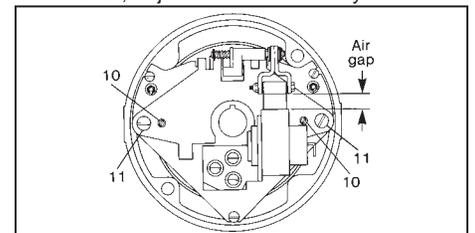

Figure 7
Note: Both adjustment nuts (11) on Figure 7 must be turned equal amounts counterclockwise to decrease torque.
- Manually lift solenoid plunger to maximum travel. Depress and allow solenoid plunger to snap out several times. See Figure 7. Measure solenoid air gap between mating surfaces of solenoid frame and solenoid plunger. (On vertically mounted brakes, it will be necessary to push solenoid plunger into solenoid frame to the point where spring pressure is felt, before measuring solenoid air gap.) As friction disc wear occurs the air gap will increase, as well as stopping time. If solenoid air gap exceeds 11/16", adjustment is necessary.
- The solenoid air gap may be decreased by turning both wear adjustment screws (10) equal amounts clockwise, approximately 1/8 turn, until approximate solenoid gap is attained. Counterclockwise rotation will increase gap. See Figure 7. Repeat Step 1.